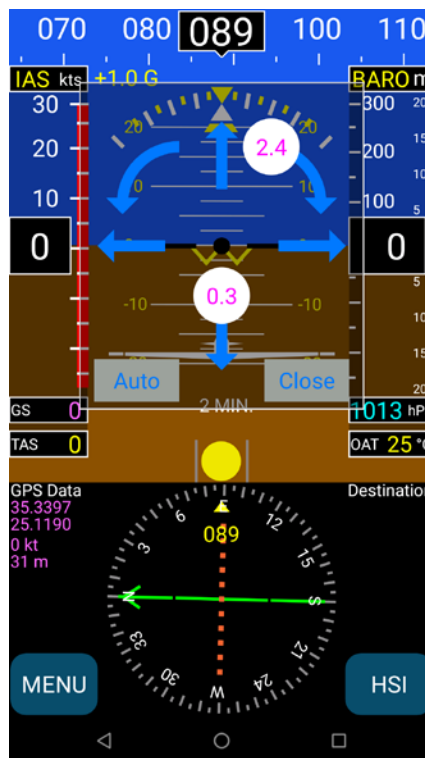

Fig. 6: AHRS leveling. Press “Auto” for automatic leveling, and/or use the arrows to manually adjust the AHRS and the compass.
- EFIS TA app will return back to the main screen and the “AHRS leveling” window (Fig. 6) will appear.